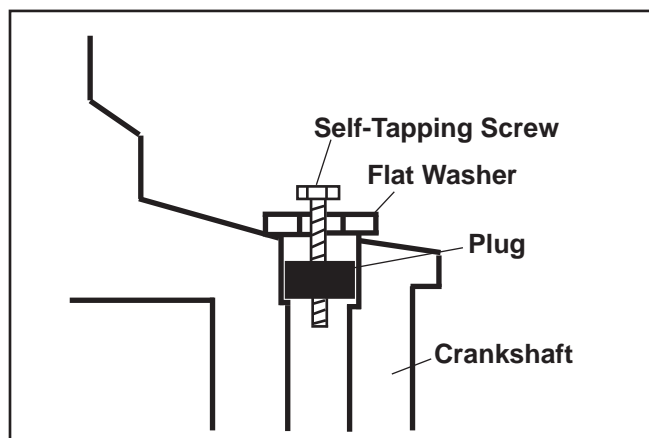

Figure 9-2. Removing Crankpin Plug.
2. Thread a 3/4 in. or 1 in. long self-tapping screw with a flat washer in the drilled hole. The flat washer must be large enough to seat against the shoulder of the plug bore. See Figure 9-2.